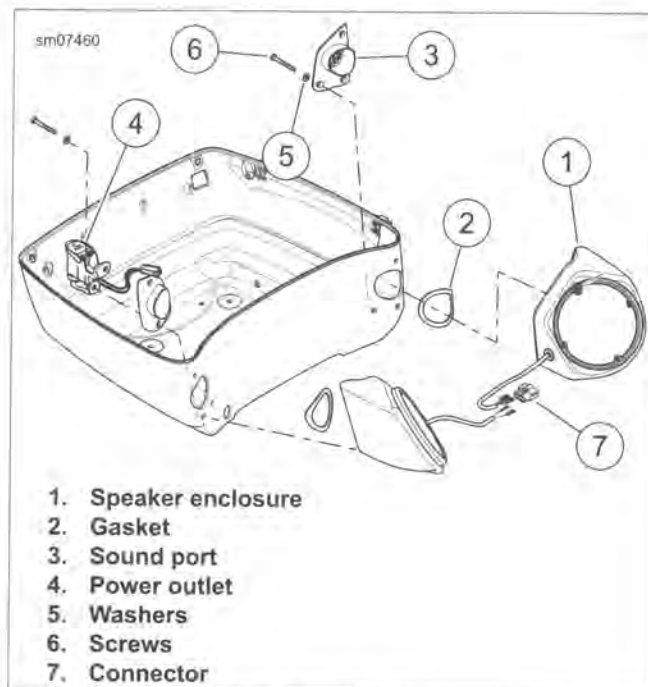

Figure 7-88. Speaker Enclosures
See Figure 7-88. Screws securing right speaker enclosure also secure power outlet (4).
4. Remove three screws (6) with flat washers (5) to free speaker enclosure from Tour-Pak.
5. Remove gasket (2) and sound port (3).
1. See Figure 7-88. Install sound port and **new** gasket (2).
5. See Figure 7-88. To separate left and right harnesses, remove terminals from connector (7).
2. See Figure 7-88. If separated, assemble left and right harnesses to connector (7). Refer to Table 7-16 for cavity assignments.